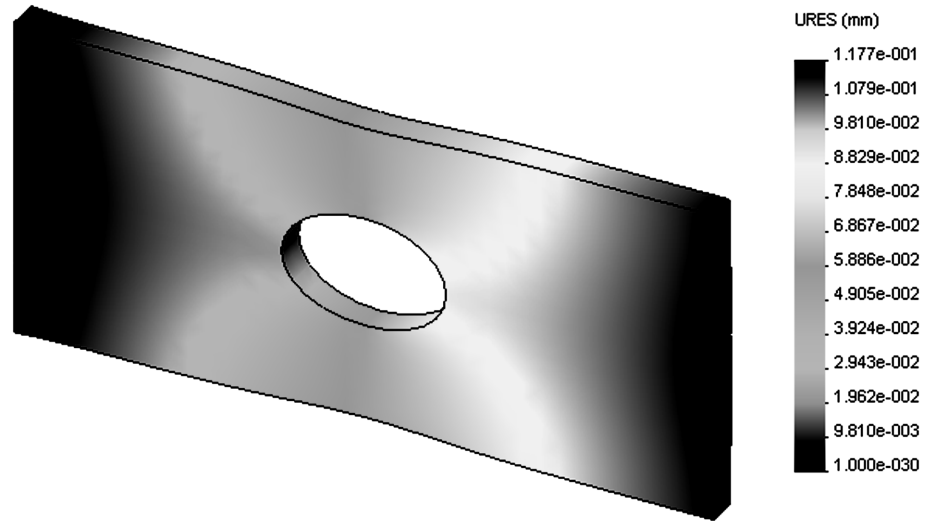

Figure 2-27: Displacement results using Continuous fringe options
- Figure 2-27 (displacement)
The plot in Figure 2-27 shows the deformed shape in an exaggerated scale. You can change the display from undeformed to deformed and modify the scale of deformation in the **Displacement Plot** window activated by right-clicking plot icon, then select **Edit Definition**.